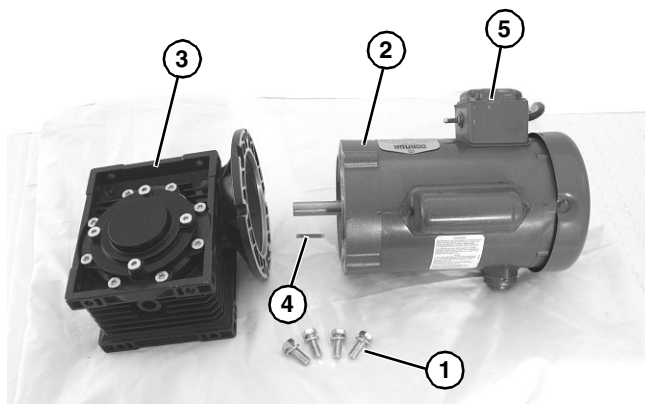

Figure 20
4. Remove four (4) screws (**Figure 20, item 1**). Detach motor (**Figure 20, item 2**) from gear reducer (**Figure 20, item 3**). Retain motor output shaft key (**Figure 20, item 4**).
5. With key (**Figure 20, item 4**) in keyway, slide motor (**Figure 20, item 2**) and gear reducer (**Figure 20, item 3**) together, noting where position of switch (**Figure 20, item 5**) will be during installation on conveyor.
6. Install screws (**Figure 20, item 1**) and tighten to 60 in-lb (7 Nm).